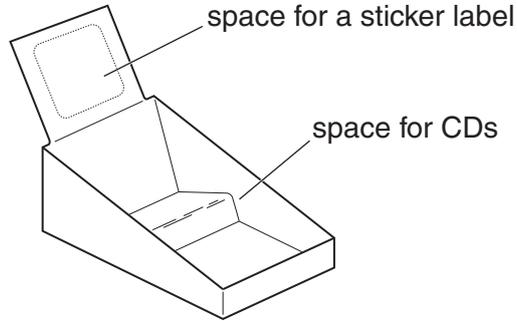

Fig. 7
- 4 Fig. 7 shows a point of sale display for CDs. The point of sale display is made from corrugated sheet.
- (c) The sticker label on the point of sale display in Fig. 7 uses a heat sensitive Smart material. Complete the table below to show the specification for the sticker label.